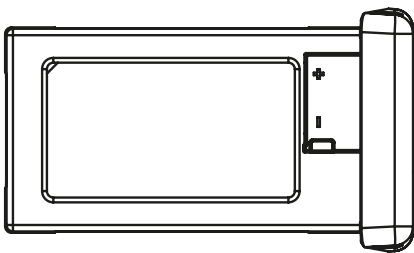
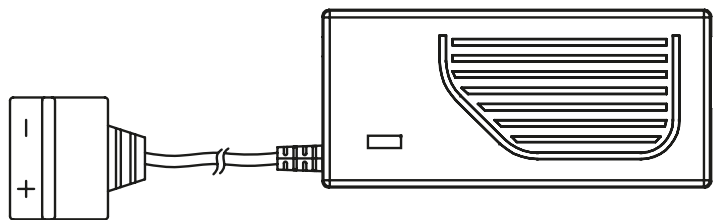

Figure 1
Figure 2
- The quadcopter battery (Figure 1) is a unique battery with a built in charge and discharge management function. It is specifically designed for ARIES and has a capacity of 5300mAh and voltage of 11.1V. You must use the dedicated quadcopter battery charger (Figure 2) provided by ARIES for charging.